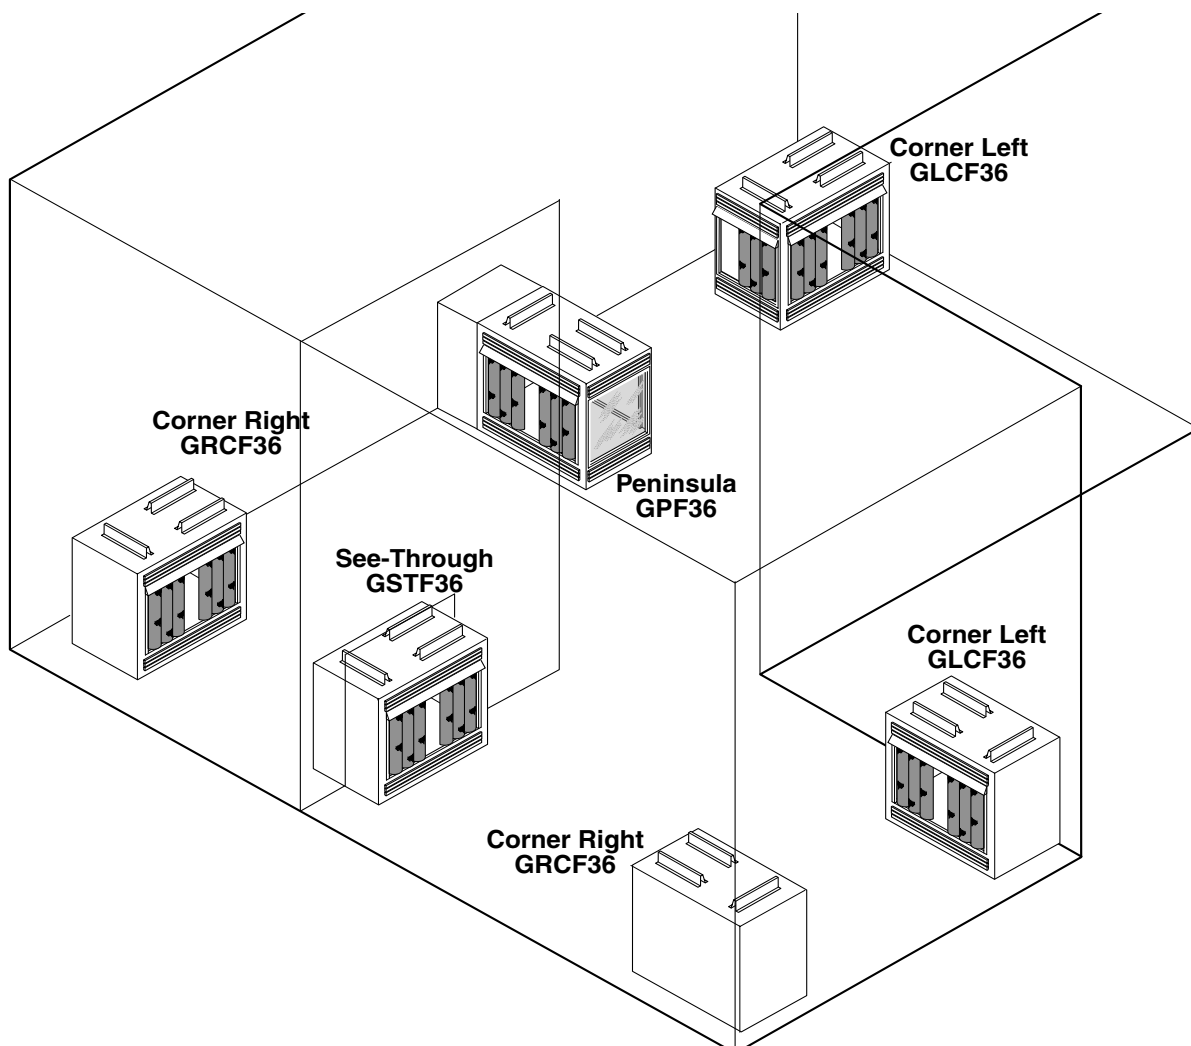

Figure 2 - Suggested Firebox Locations
- Minimize modifications to existing construction. *Refer to Figure 2* for location suggestions.